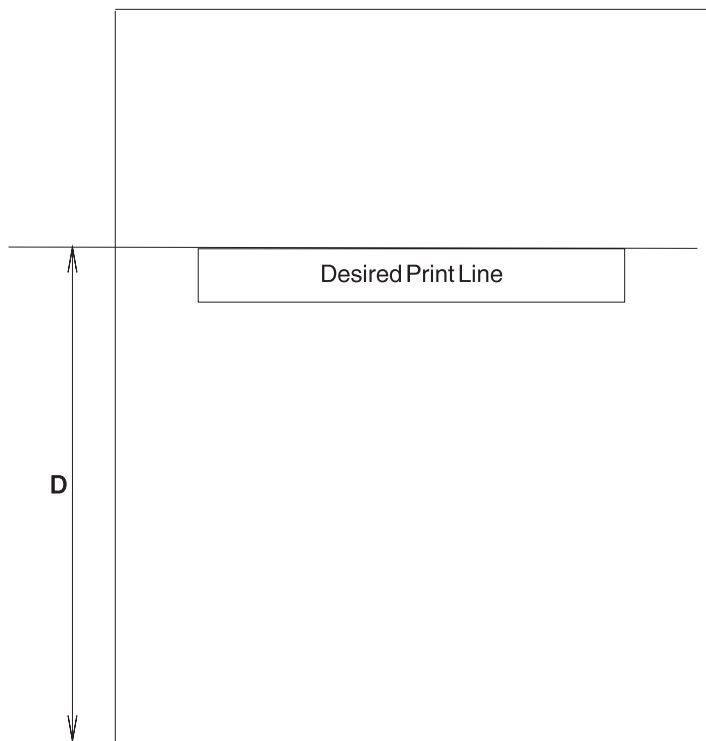

Figure 200. Calculating distance from top of document to top of print line on a printer Model 3 or 4 (top insert)
1. Measure the distance D as shown in Figure 200 from the top of the document to the top of the appropriate print line.